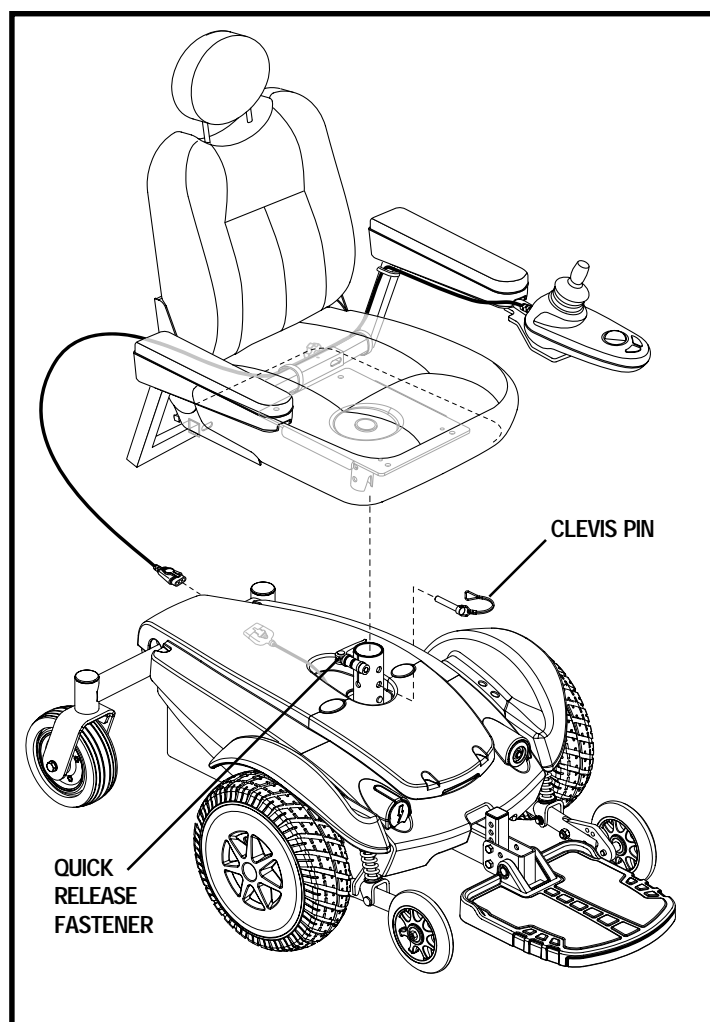

Figure 13. Seat Height Adjustment
4. Remove the seat. See figure 13.